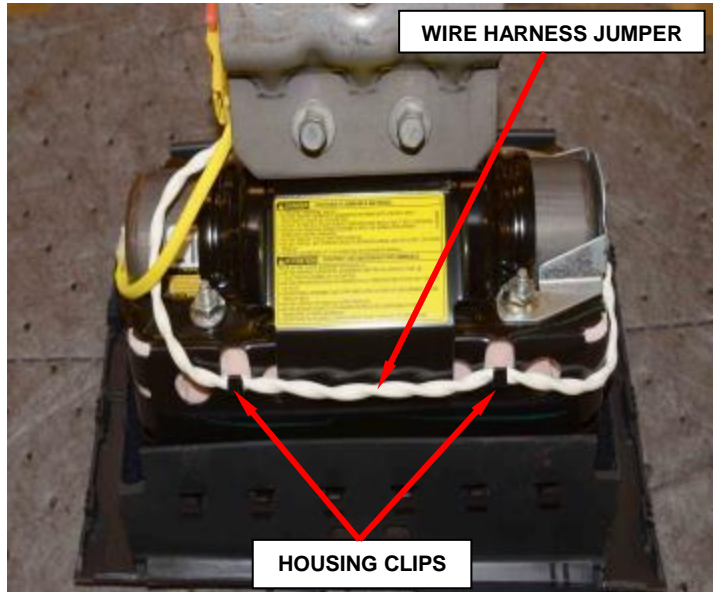

Figure 69 – Passenger Airbag Assembly
- b. Disengage the wire harness jumper from the housing clips in two places (Figure 69).